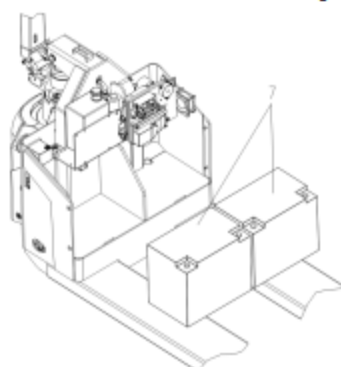

Fig.10
- (Fig 10) remove old battery7, assemble the new battery according to the opposite steps ;